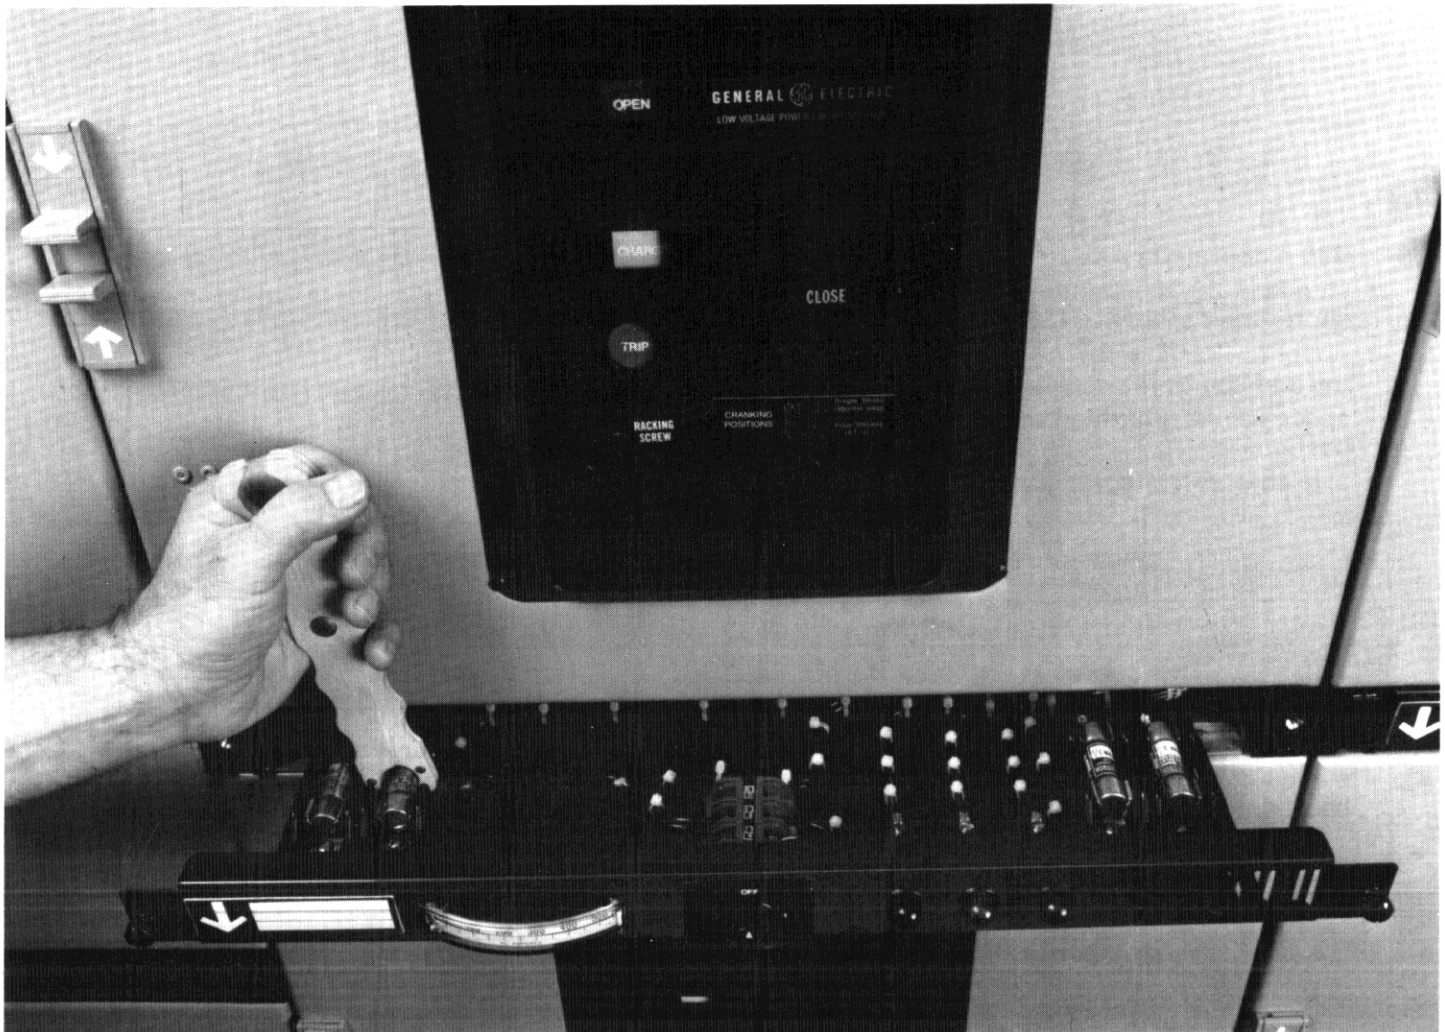

Fig. 7
- A standard slide-out instrumentation tray (figure 7) is located above each breaker compartment eliminating cross-hinge wiring. When required, horizontal-edgewise ammeter, ammeter switch and indicating lights can be